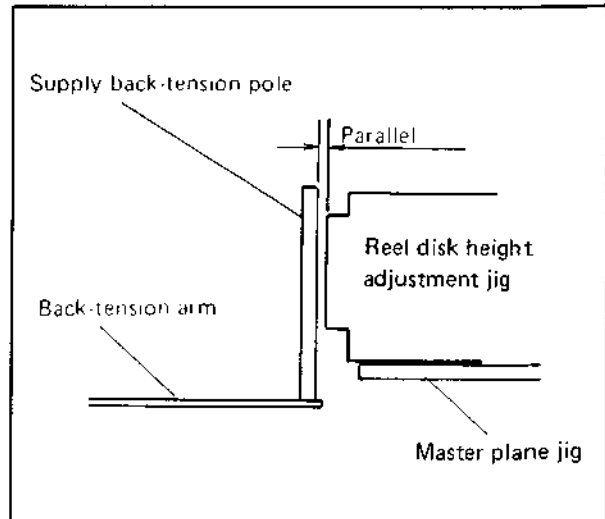

Fig. 4-18
1. Set the reel disk height adjustment jig as shown in Fig. 4-18. Check that the tension pole is parallel with the jig.